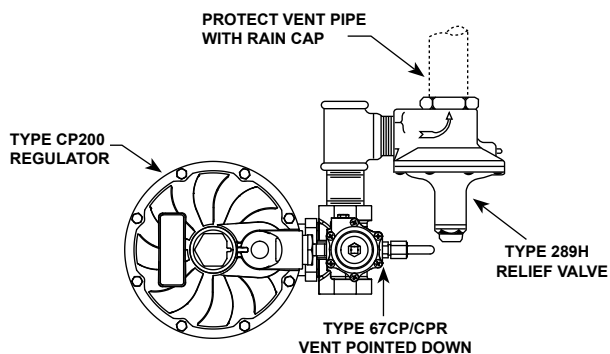

Figure 4. CP200 Series Regulator Installed with a Type 289H Relief Valve for High Capacity Relief
The loading regulator vent should be kept open to permit free flow of gas to the atmosphere. Protect vent openings against entrance of rain, snow, insects, or any other foreign material that may plug the vent or vent line. On outdoor installations, point the loading regulator vent downward to allow condensate to drain (see Figures 4 and 8). This minimizes the possibility of freezing and of water or other foreign materials entering the vent and interfering with proper operation.
- Install the regulator with the vent pointed vertically down, see Figure 4. If the vent cannot be installed in a vertically down position, the regulator must be installed under a separate protective cover. Installing the regulator with the vent down allows condensation to drain, minimizes the entry of water or other debris from entering the vent, and minimizes vent blockage from freezing precipitation.
If the regulator is used in conjunction with a Type 289H relief valve, it should be installed as shown in Figure 4. The outside end of the vent line should be protected with a rainproof assembly.